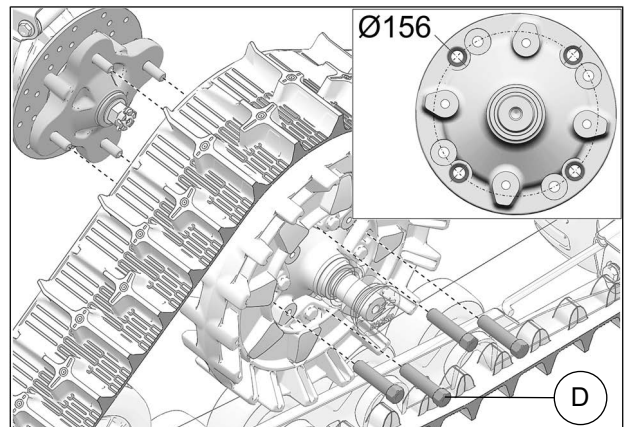

Fig. 15
16. Secure undercarriage to rear hub using provided M12 lug nuts (D). Use bolt circle Ø156 mm. See Fig. 15